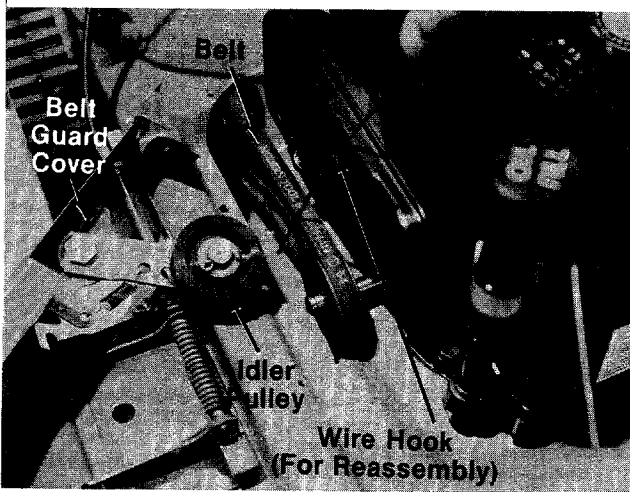

FIGURE 26.
- Unhook the belt from the idler pulley. See figure 26.
When reassembling the idler pulley and belt guard cover, place a wire hook under the belt. Pull up on the hook, and slip the idler pulley under belt. See figure 26.